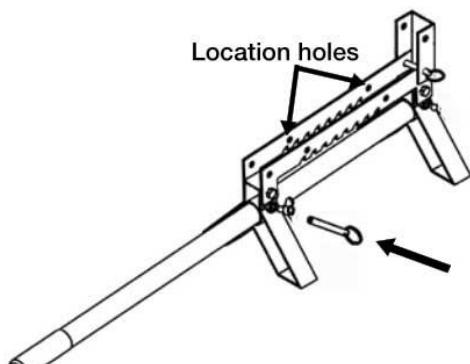

Figure 4
7. Pass the handle through the feet and fix it with a release pin (9.5x38mm) as shown in Figure 4.
Pass the handle through the feet and fix it with a release pin (9.5x38mm) as shown in Figure 4.